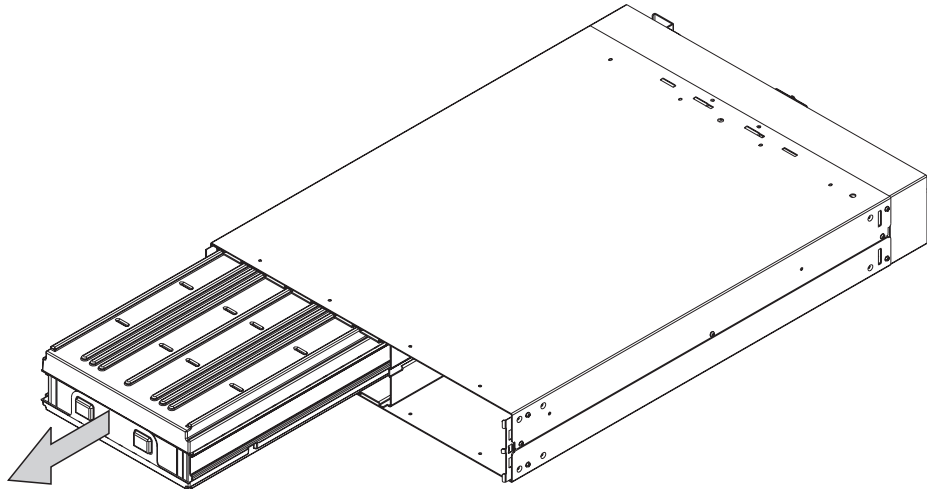

Figure 223. Removing the 2145 UPS battery
4. Remove the battery plate, to access to the battery. See Figure 223.